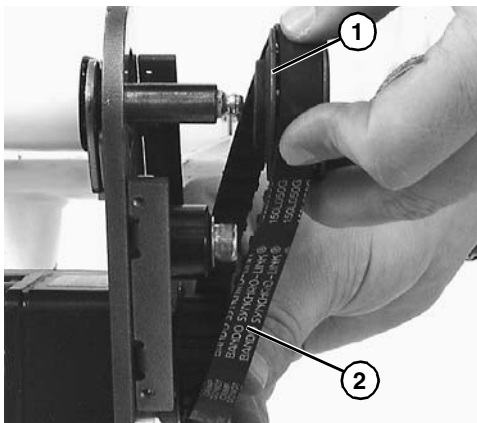

Figure 21
If drive pulley (**Figure 21, item 1**) is replaced, wrap timing belt (**Figure 21, item 2**) around drive pulley and complete step 3.